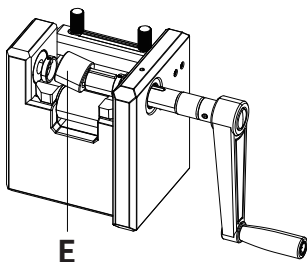
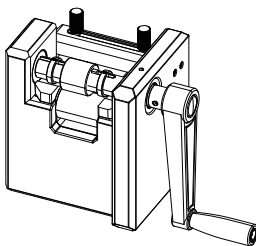

Fig.9
Fig.10
- 5.As shown in Fig. 9, align the inner groove of E Embossing Brass Roller with Q Locking Pin, as shown in Fig. 10.